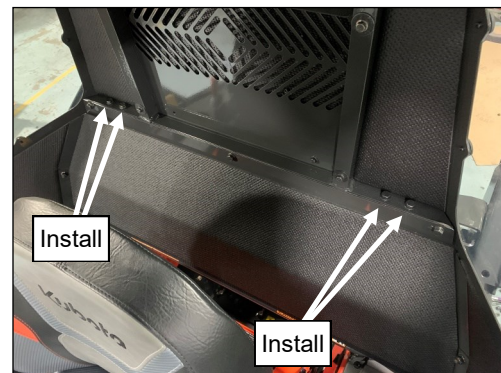

Fig. 5.8 (Install Rear Bolts)
- 5.8 See fig. 5.8. Fasten the rear of the cabin to the